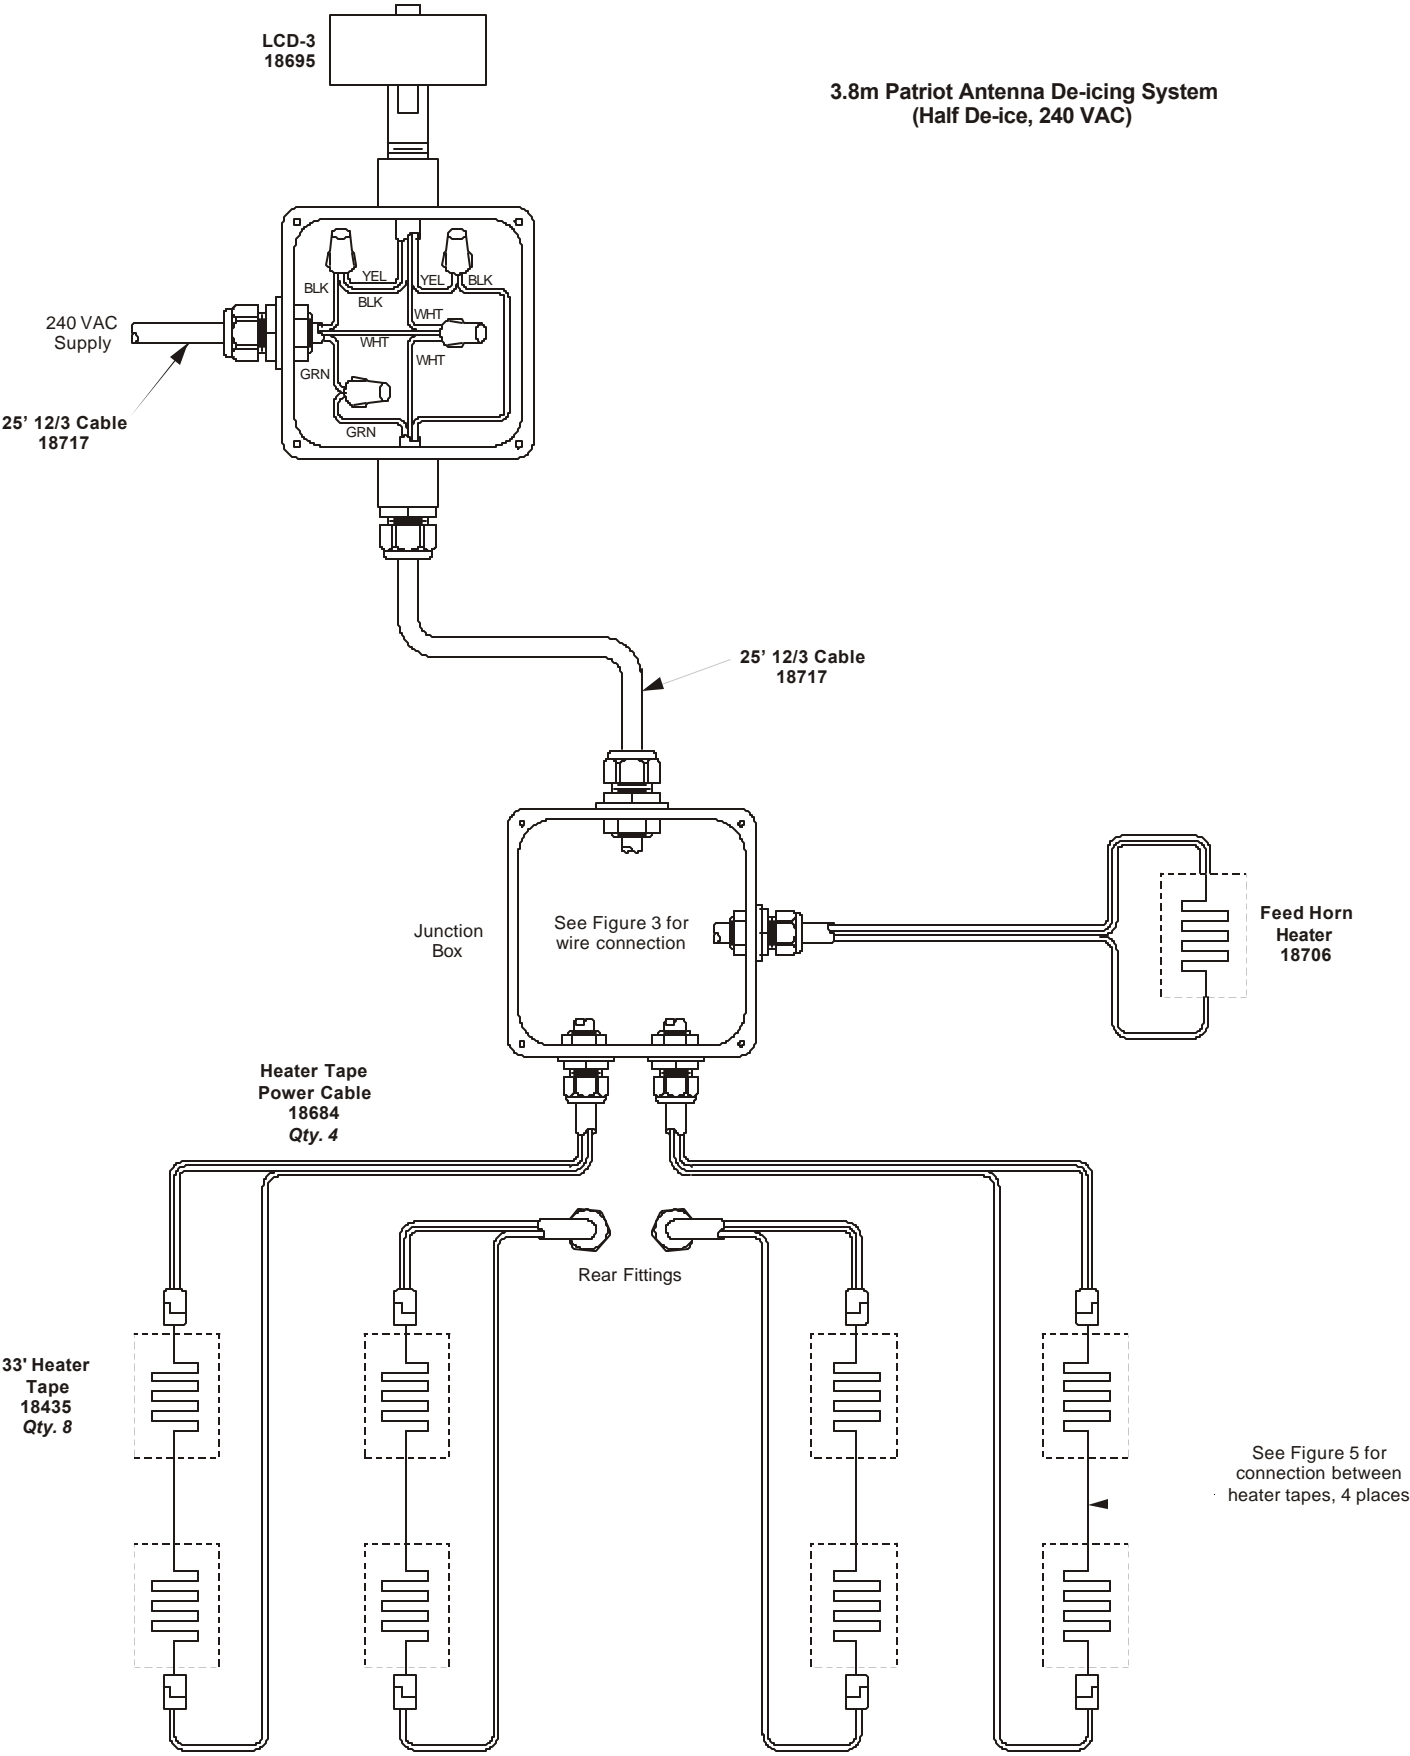

Figure 2
9. Run the main power feed cable (#18717) from the LCD-3 controller to the power distribution junction box as shown in Figure 2. Connect the power supply cable (#18717) to the LCD-3 controller.
10. Connect the heater power cables (#18684) to the heater tape as shown in Figure 2, and run the other ends into the power distribution junction box. Connect wires inside the junction box, following the appropriate wire color code as shown in figure 3. Secure any excess length in the power cables to the antenna mount structure using tie wraps.